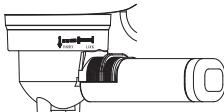

Fig.1
2. Set steel mesh into metal funnel, pull the press bar backward, make sure the tube on the funnel aligns with groove in the appliance, then insert the funnel into the appliance from the “Insert” position and release the press bar, and you can fix them into coffee maker firmly through turn it anticlockwise until it is at the “Lock” position. (See fig. 1).